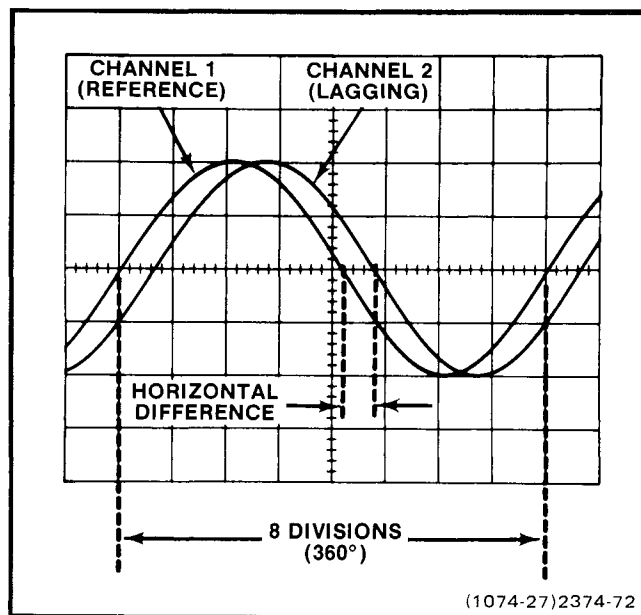

Figure 2-17. Measuring phase difference.
8. Turn the SEC/DIV VAR control until one cycle of reference signal (Channel 1) occupies exactly 8 divisions between the second and tenth graticule lines (see Figure 2-17). Each division of graticule represents 45° of the cycle ($360^\circ \div 8 \text{ divisions} = 45^\circ/\text{division}$). The horizontal graticule calibration can be stated in terms of degrees as 45°/division.
EXAMPLE: Assume a horizontal difference of 0.6 division with a horizontal graticule calibration of 45°/division as shown in Figure 2-17. Using the formula: